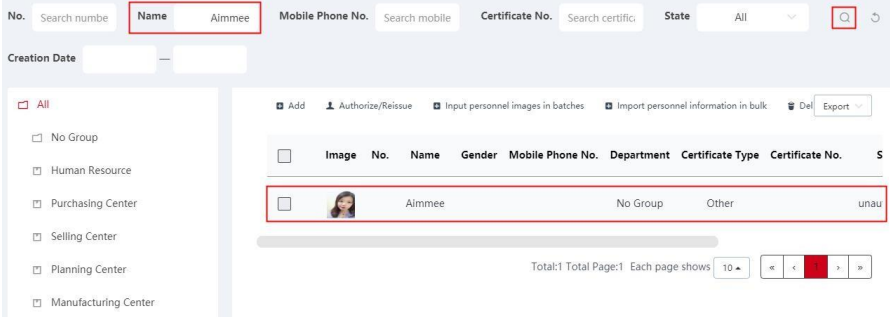

Figure 5-52
Step 3: At the top of the interface, enter a piece of information (such as NO., Name, Mobile Phone NO., Certificate NO., or state) of the search person,click "🔍", search results will be displayed in the people list, as shown in Figure 5-52 below.